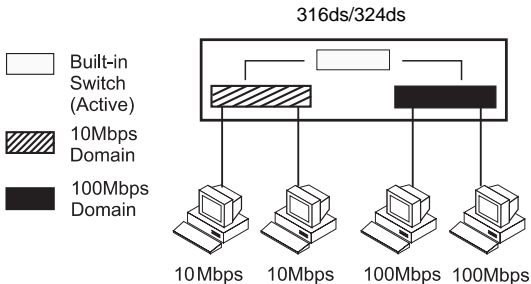

Figure 3-2 Separate domains in ALH-316ds/324ds.
- For stand-alone one, the ALH-316ds/324ds consists of separate 10Mbps and 100Mbps network domains with one built-in switch to inter-connect the data in domains, as shown in Figure 3-2.